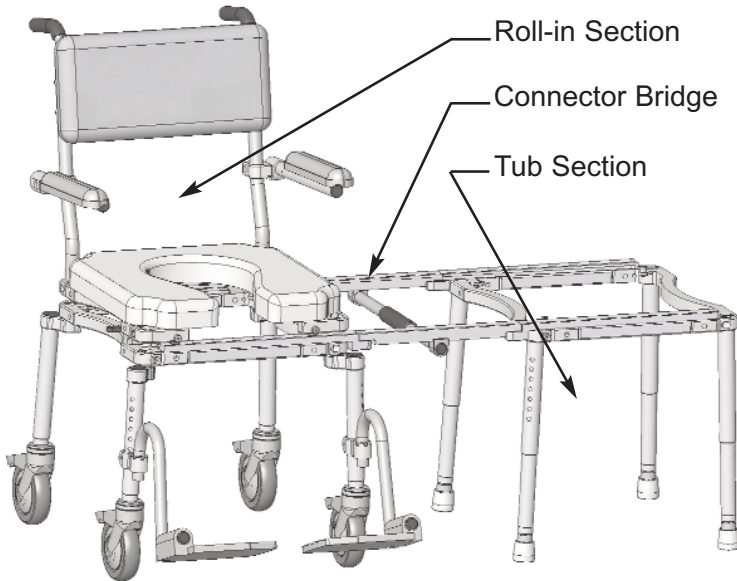

Figure 1
**A** The multiCHAIR 6000 (Refer to Figure 1) is composed of three sections: the roll-in section with offset legs and 5" casters, the connector bridge section, and the tub section which has straight legs and adjusting feet. The chair is shipped standard with the tub section positioned on the user's left side. Unpack all parts from the shipping carton.